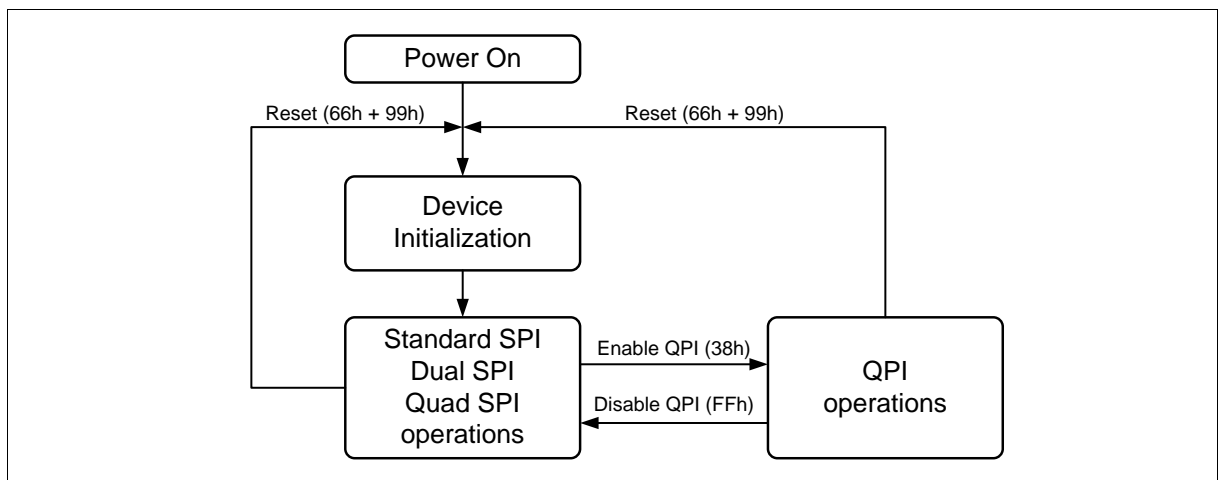

Figure 2 FM25F01B Serial Flash Memory Operation Diagram
The FM25F01B supports Quad Peripheral Interface (QPI) operations only when the device is switched from Standard/Dual/Quad SPI mode to QPI mode using the “Enable QPI (38h)” instruction. The typical SPI protocol requires that the byte-long instruction code being shifted into the device only via DI pin in eight serial clocks. The QPI mode utilizes all four DQ pins to input the instruction code, thus only two serial clocks are required. This can significantly reduce the SPI instruction overhead and improve system performance in an XIP environment. Standard/Dual/Quad SPI mode and QPI mode are exclusive. Only one mode can be active at any given time. “Enable QPI (38h)” and “Disable QPI (FFh)” instructions are used to switch between these two modes. Upon power-up or after a software reset using “Reset (99h)” instruction, the default state of the device is Standard/Dual/Quad SPI mode. To enable QPI mode, the non-volatile Quad Enable bit (QE) in Status Register-2 is required to be set. When using QPI instructions, the DI and DO pins become bidirectional  $DQ_0$  and  $DQ_1$ , and the WP# and HOLD# pins become  $DQ_2$  and  $DQ_3$  respectively. See Figure 2 for the device operation modes.